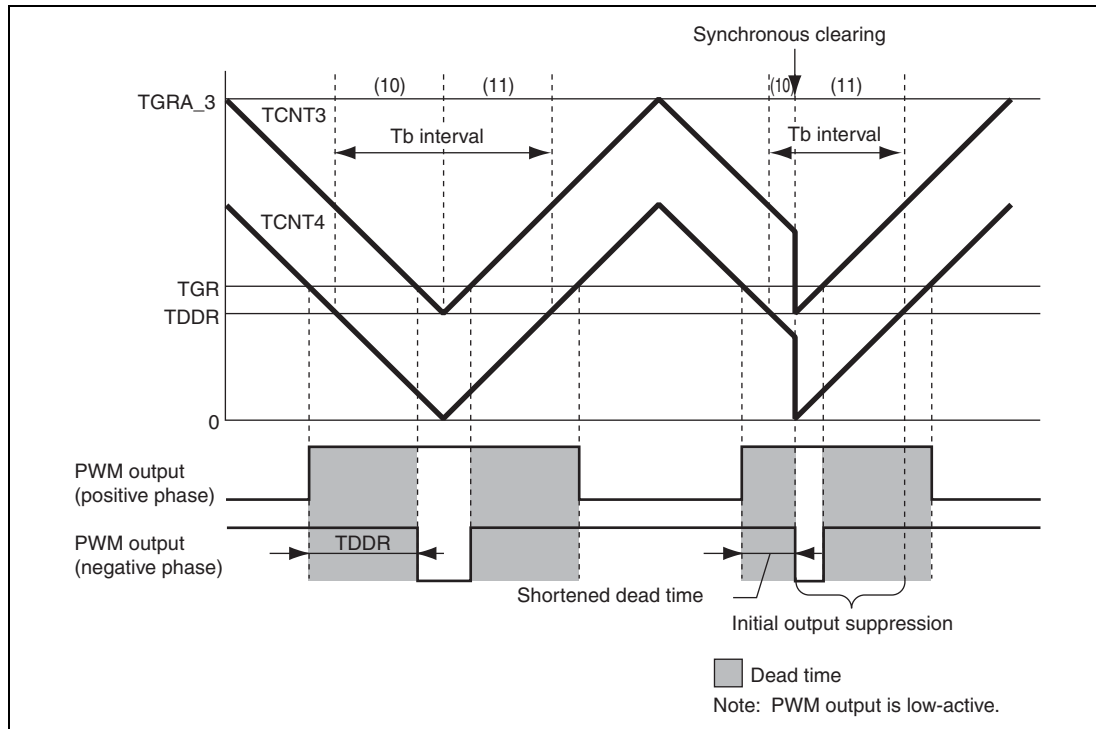

Figure 10.136 Condition (1) Synchronous Clearing Example
Condition (1): When synchronous clearing occurs in the PWM output dead time interval within initial output suppression interval (10) (figure 10.136).